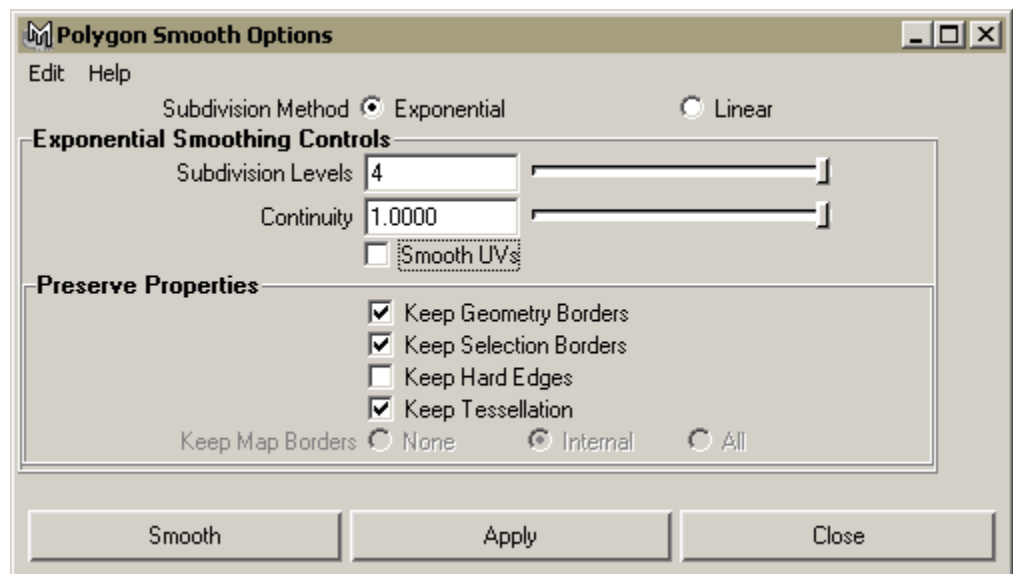

FIGURE 2-4. Maya Polygons Smooth Options dialog
- 2 Select the polygon geometry (bodyGeo) and go to Modeling > Polygons > Smooth Options (Figure 2-4).